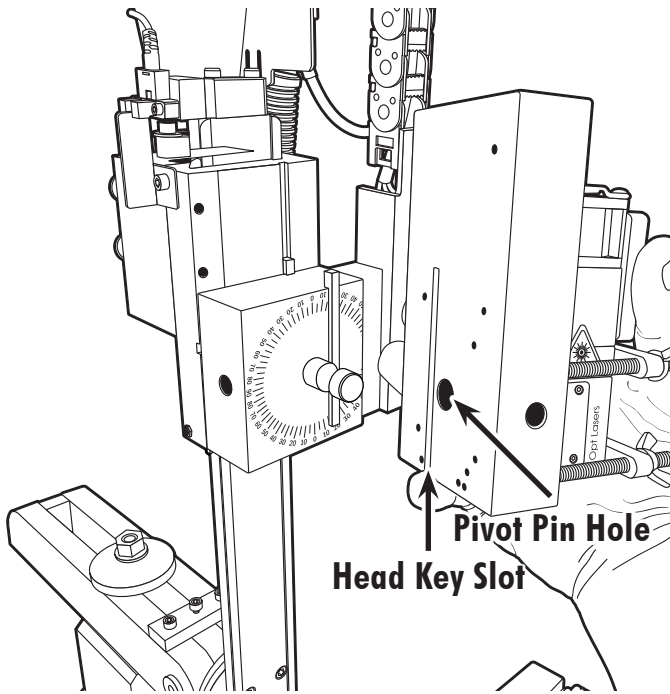

FIGURE 11—Align the head key slot and pivot pin hole on the back of the laser mount to the head key and the pivot pin on the column saddle.
- With the laser either mounted or unmounted to the laser mount, hold the laser mount with the pivot pin hole and head key slot orientated towards the column saddle (see Figure 11).